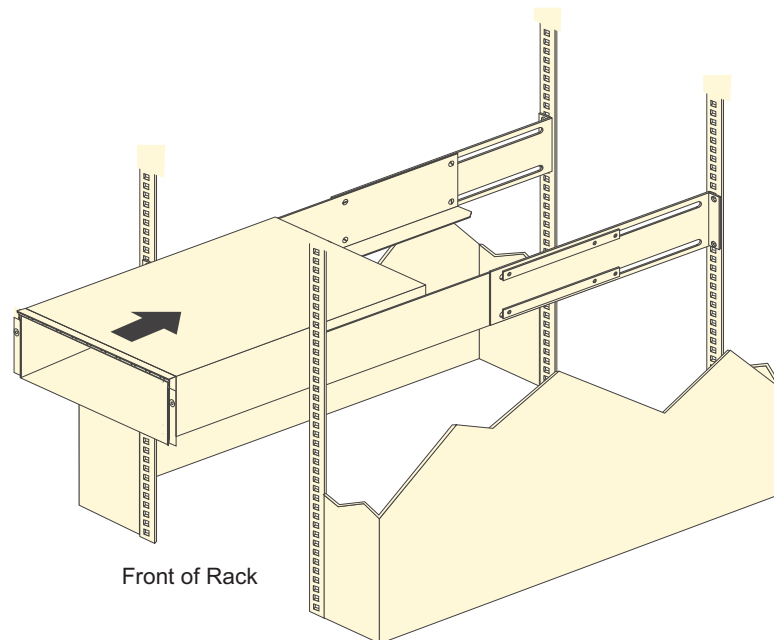

Figure 25. Installing the DS4700 Express
- b. With help from another person, place the back of the storage subsystem on the support rails, and then slide the unit into the rack as shown in Figure 25.